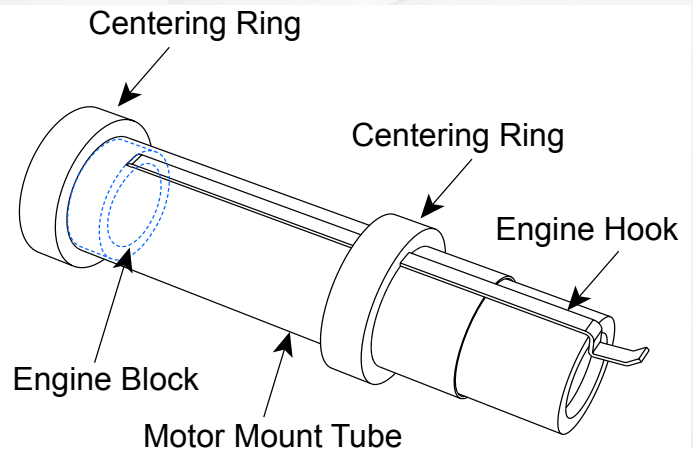

Figure 1 - Typical components of an engine mount
With these three criteria in mind, the standard engine mount for a model rocket looks like figure 1.
1. What type of engine retention is going to be used on the kit? If I'm using an engine hook, like shown in Figure 1, there is a minimum length that the tube has to be. It turns out that we just make the tube the same length as the rocket engine itself, and there is enough room for everything to fit.